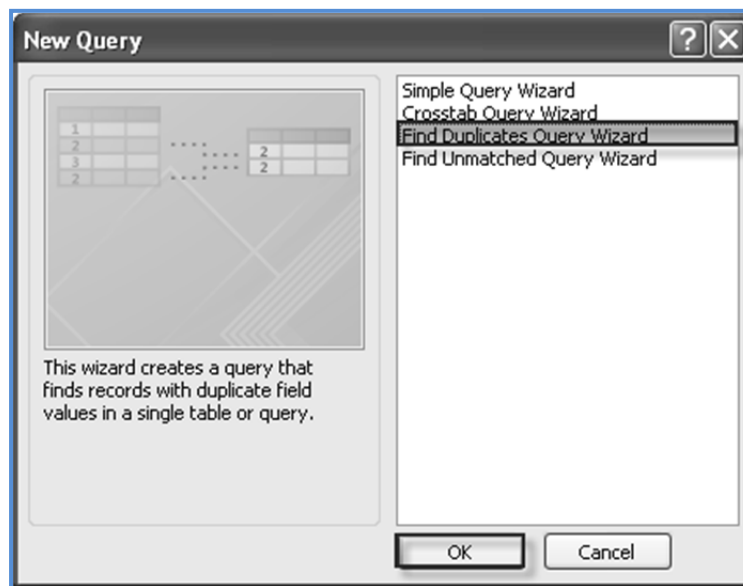

Fig. 1.2.20: Select Find Duplicates Query Wizard
2. Select **Find Duplicates Query Wizard** from the **New Query** dialog box and click **OK**, as shown in Fig. 1.2.20.